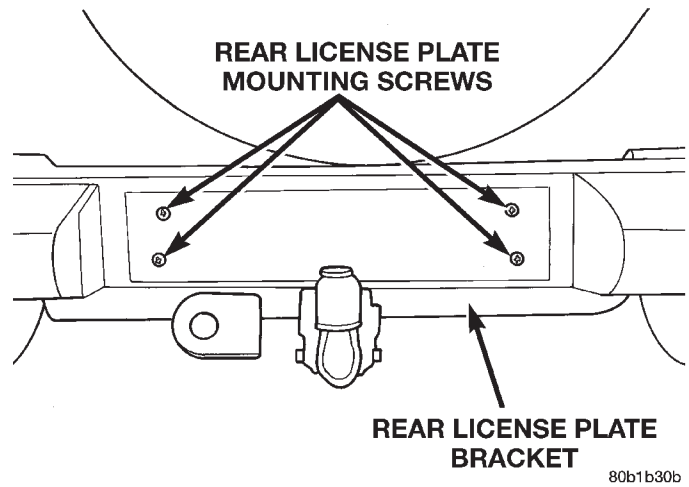

Fig. 4 Rear License Plate Bracket
(1) Remove the rear license plate bracket attaching screws (Fig. 4).
(2) Disconnect the license plate lamp electrical connectors.